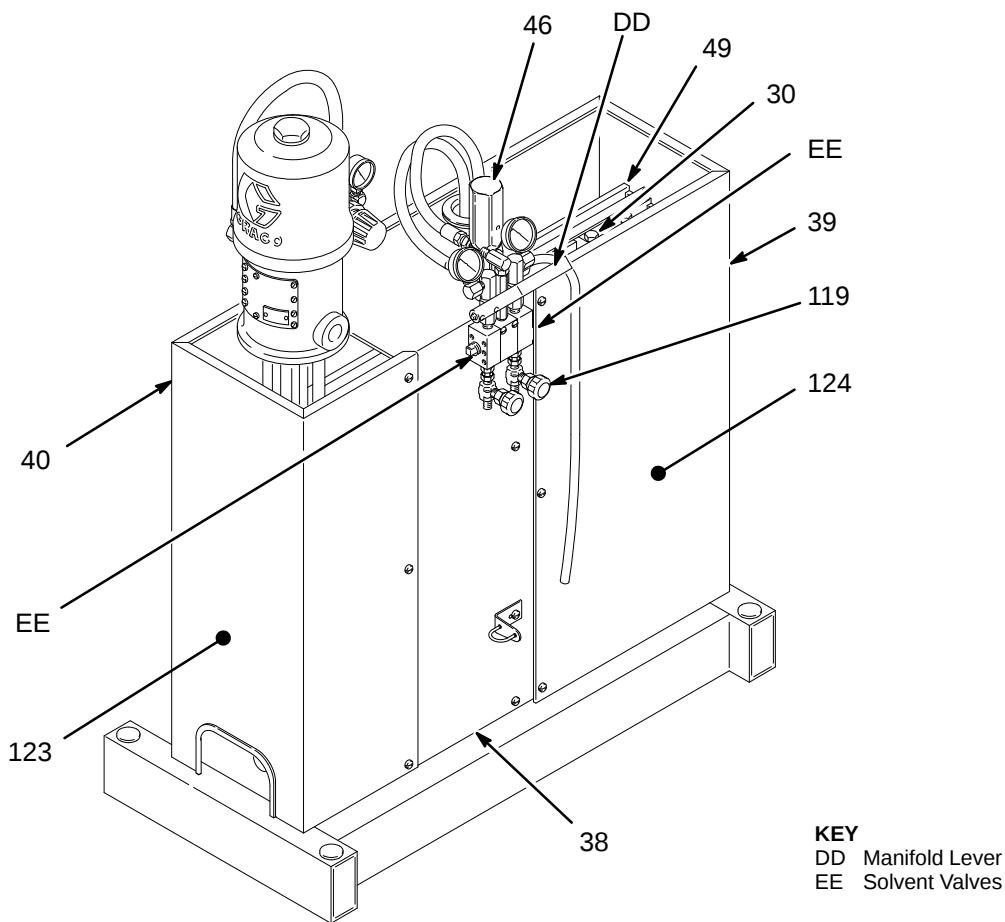

Fig. 4
Remove the safety panels (38,39,40). See Fig. 4 on page 9. Connect a grounded fluid hose (X) from the solvent flush pump to the 3/8 npt solvent flush inlet (N) of the mixer manifold.